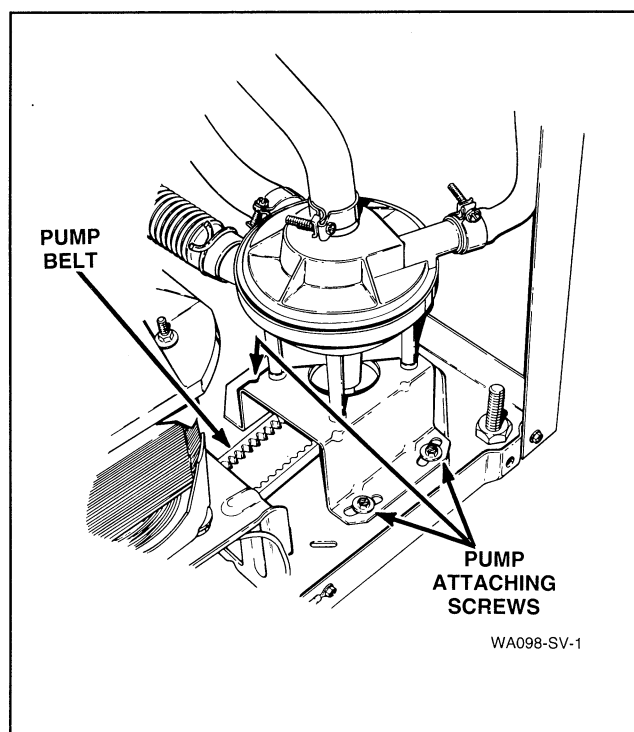

Figure 17
- c. Loosen two front mounting screws and one rear mounting screw holding pump and bracket to washer base, *Figure 17*, pivot entire assembly toward motor to loosen belt tension.
- c. Loosen two front mounting screws and loosen the rear mounting screw holding pump and bracket to washer base, *Figure 17*, pivot entire assembly toward motor to loosen belt tension.